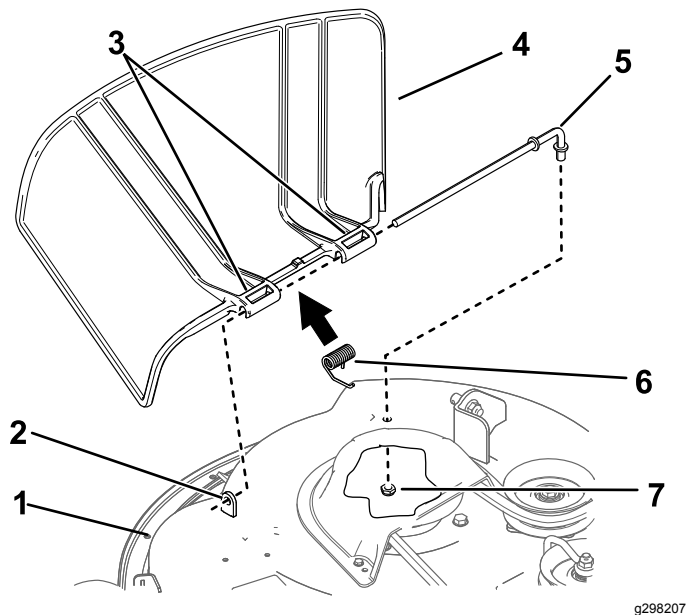

Figure 65
1. Remove the nut (3/8 inch) from the rod under the mower (Figure 65).
2. Slide the rod out of the short stand-off, spring, and grass deflector (Figure 65).
4. Install the new grass deflector (Figure 65).
7. Slide the rod through the second grass-deflector bracket (Figure 65).
9. Secure the rear end of the rod into the mower with a nut (3/8 inch) as shown in Figure 65.